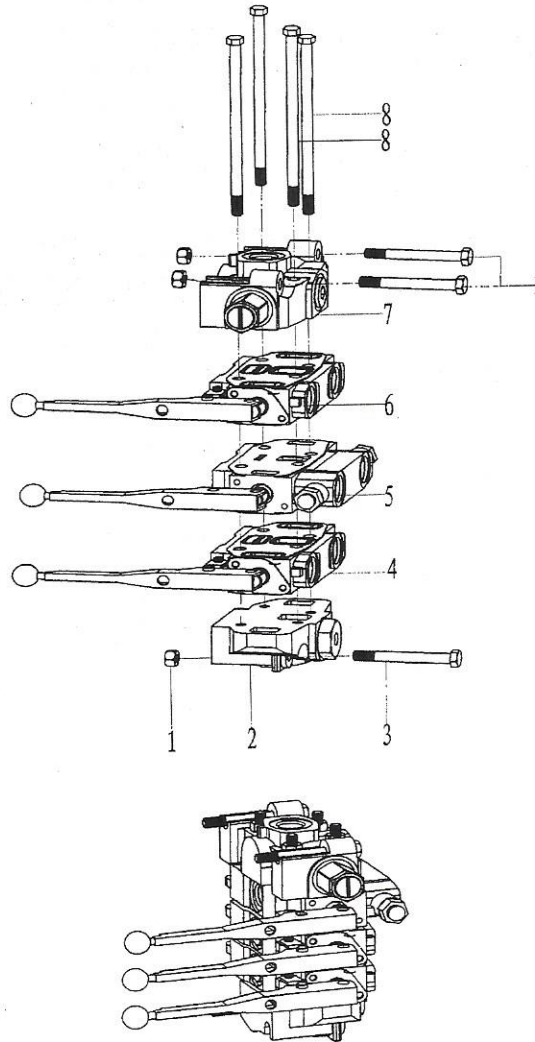

Fig. 13
10. Composite valve (Fig 13, Table 10)